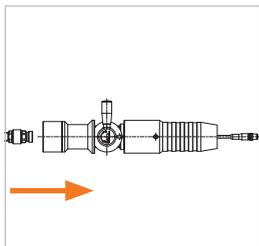

Figure 10
- ▶ Push the WEH® Service receptacle into the fueling nozzle until it stops and hold the nozzle in this position (OFF position) (*Figure 10*).